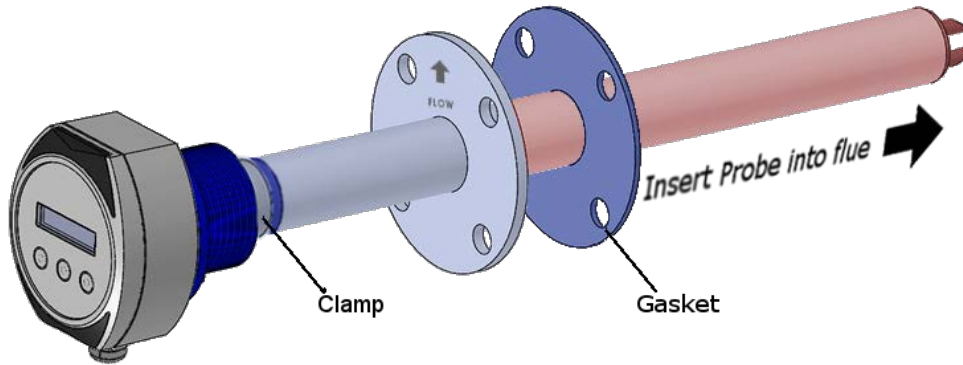

Figure 5-10 - Probe Installation
5. Ensure the head housing is orientated such that the cable gland faces downwards. If necessary, loosen the clamp and carefully adjust the housing orientation; refer to Figure 5-10. Tighten the clamp securely; torque to 5Nm.